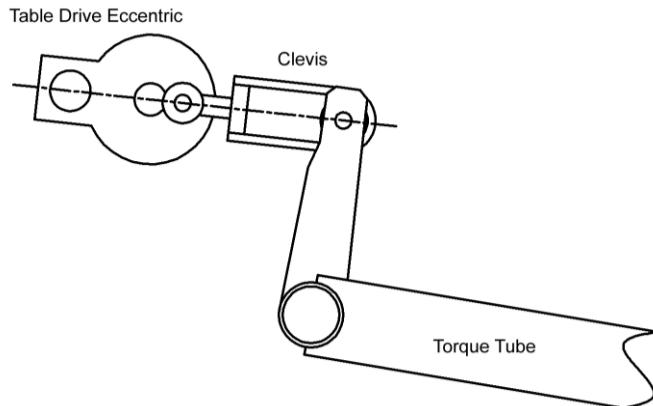

Figure 4.2-9
4. Crank the Table to Bottom Dead Center (its lowest point). Table Drive Shaft, Eccentric stud, and Clevis bolt through Torque Tube all in line as seen in Figure 4.2-9).